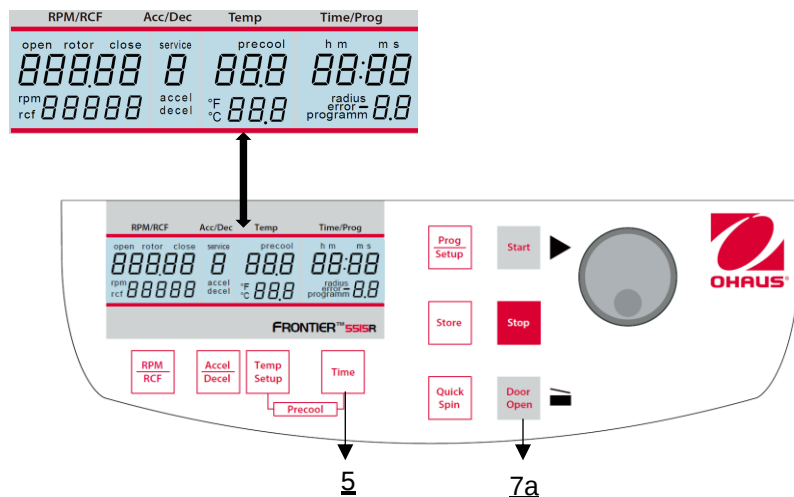

Figure 29
Open the centrifuge lid and shut off the main switch. Now switch on again the main switch. For approximately 3 seconds the model name will be shown in the display as well as the current software version. Press during this time the keys **"Time"** (5) and **"Door Open"** (7a) simultaneously. As a result, a display test is executed for approx. 3 seconds. All indicators will appear at the same time (see **Figure 29**).